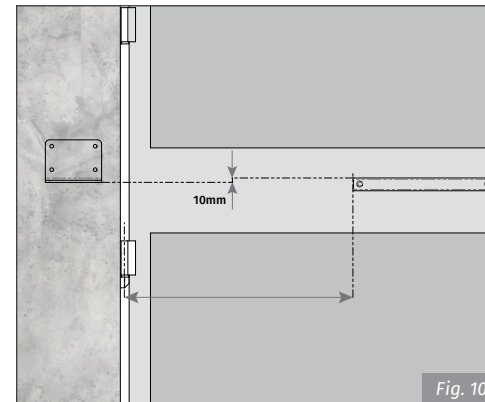

Fig. 10
- 3** • Attach the front support to the gate leaf, following the dimensions of **Fig. 10**. • 450mm from the gate hinge and 15mm below the motor support.